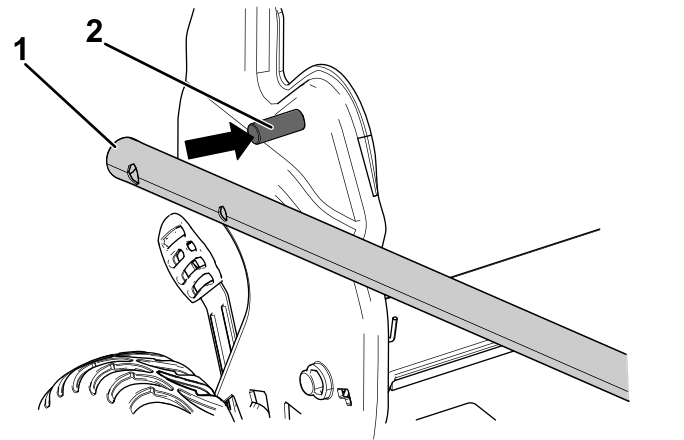

Figure 4
1. Handle knob (2) 2. Carriage bolt (2)
2. Install the handle ends onto the mower housing so that the pin attached to each handle bracket is in the lower hole of its related handle end (Figure 4).